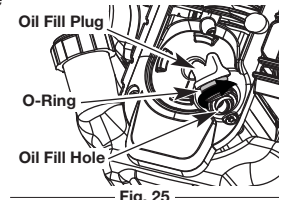

Fig. 25
- Remove the oil fill plug (Fig. 25).
**NOTE:** Make sure the O-ring is in place on the oil fill plug when checking and changing the oil (Fig. 25).